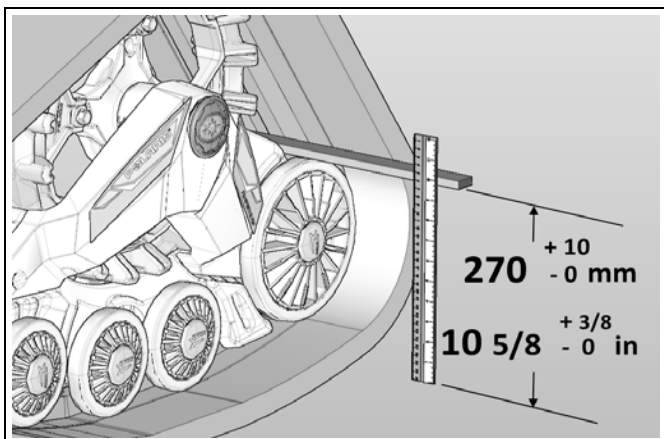

Figure 5
- Position a flat bar across both rear wheels of front track system and measure from the ground up to flat bar as shown on Figure 5.